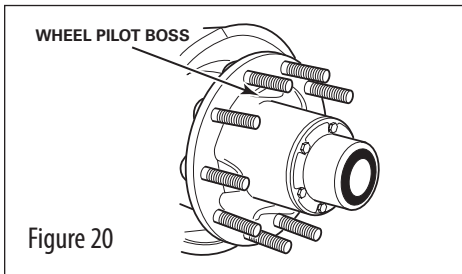

Figure 20
2. In environments where a corrosion inhibitor is beneficial, ConMet recommends the use of Corrosion Block, a product of Lear Chemical Research, (905)-564-0018. In severely corrosive environments, a light coat of Corrosion Block on the drum and wheel pilots has proven beneficial.
4. Before installation of brake drums and wheels that utilize the hub piloted system, rotate the hub so one of the wheel pilots bosses is at the top (12 o'clock position) (see Figure 20).